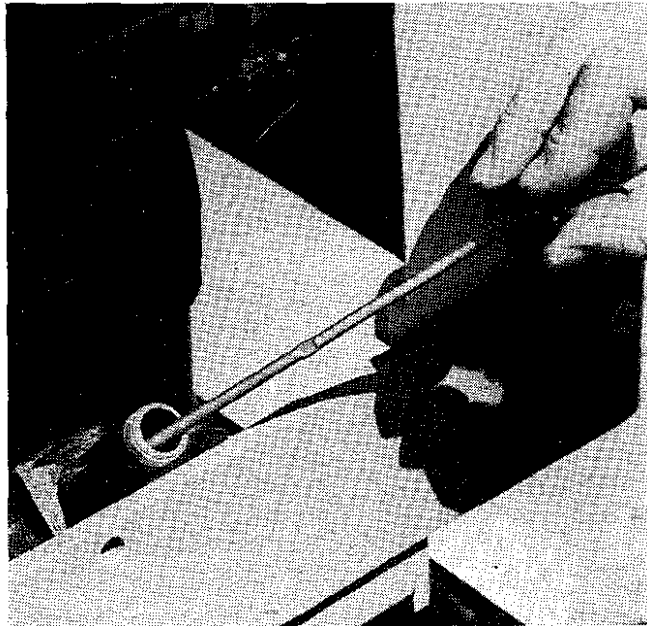

FIGURE 8
2. Engine Oil: Be **sure** the oil in the crankcase is at the proper level. Remove the dipstick, wipe it clean, and **turn** it back in. When removed again, oil should show up to the full mark. See figure 8. **See** your **Briggs** and Stratton manual and page 15 of **this manual** for grade and weight of oil to use.